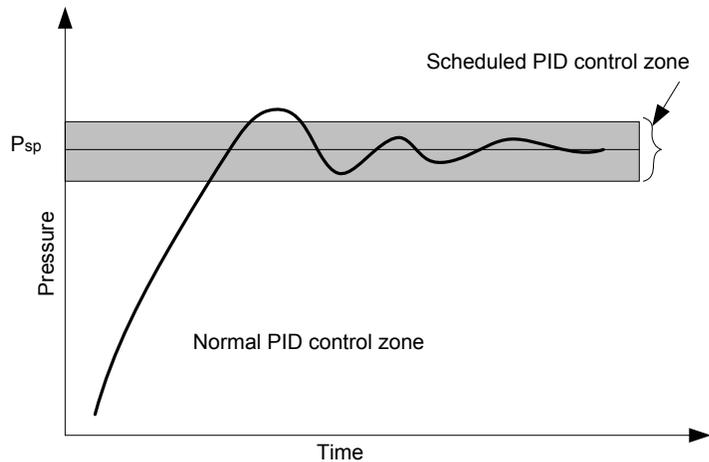

Figure 6-16 Schematic of a Scheduled PID Control
- GainSchedBand: This is the band for gain scheduling PID control, that is, allows different proportional gain K_p at different error band during pressure control. This is often used for maintaining stable control around the set point (within the scheduled PID control zone as shown in Figure 6-16), while ensuring fast approach to the set point in the normal PID control zone where the control error is large (such as at the beginning of the control process).